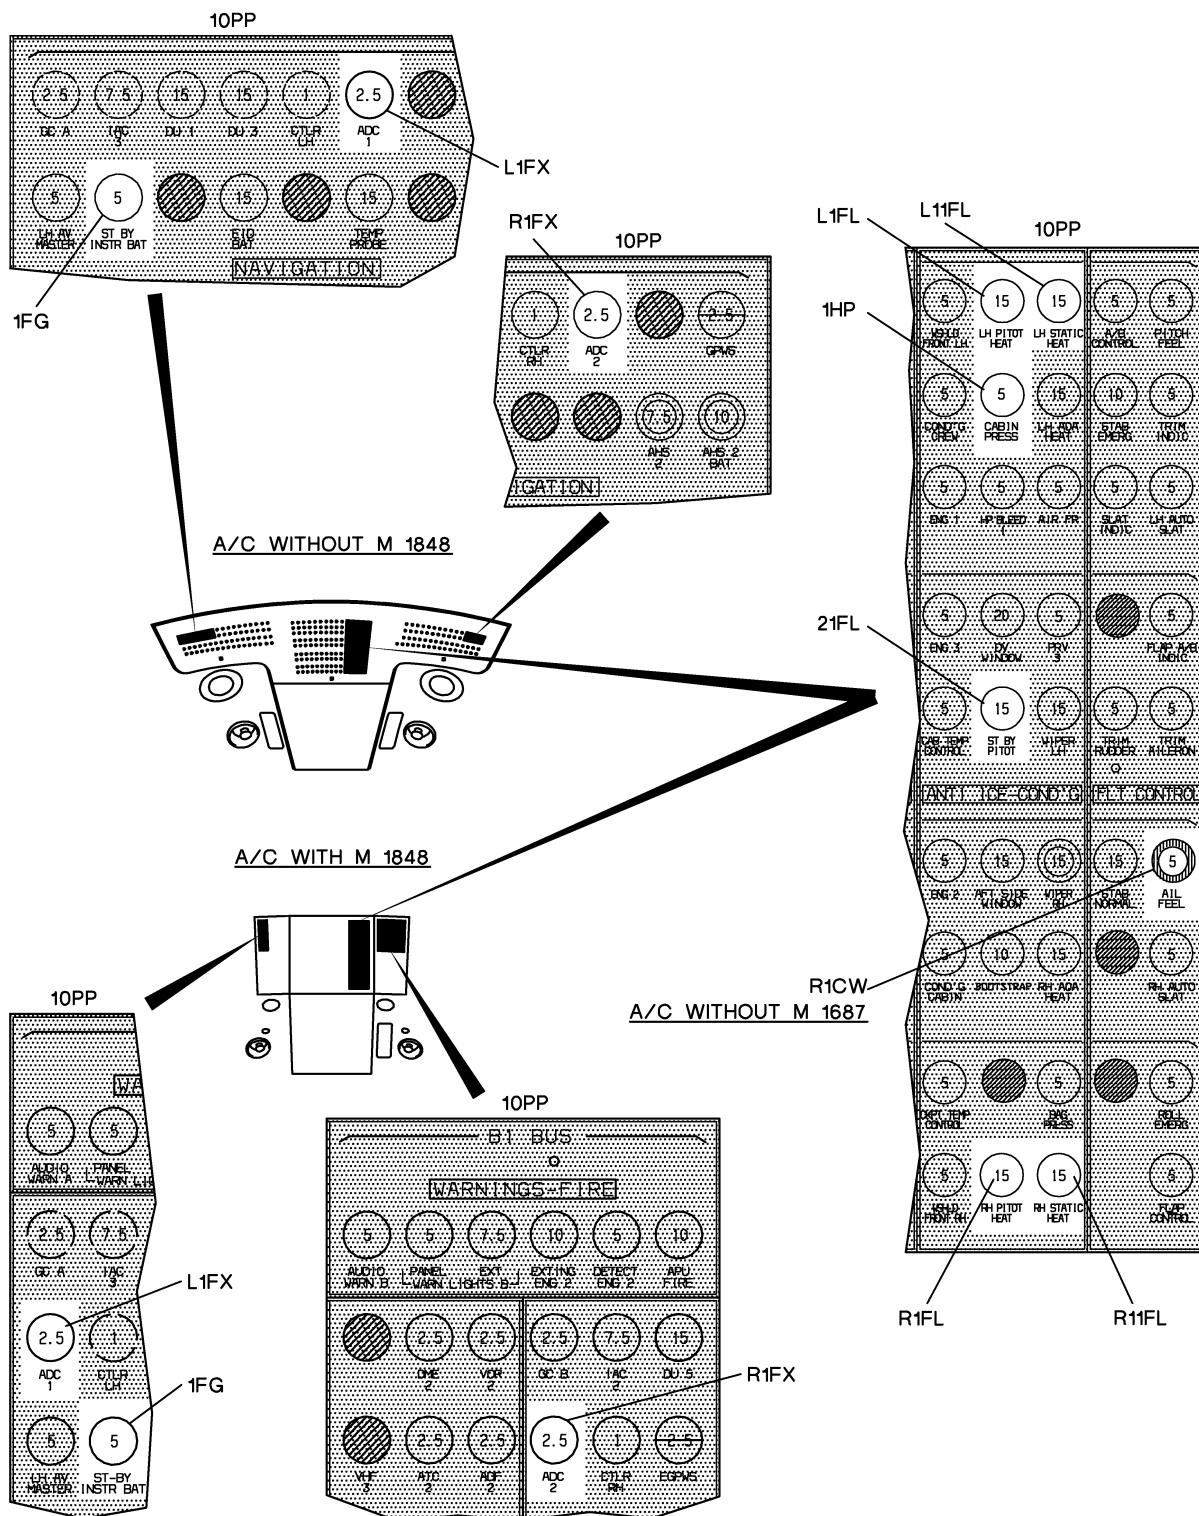

Figure 1: LOCATION OF CIRCUIT BREAKERS
- (4) Slowly return the digital air data bench to ambient atmospheric pressure.
- (5) On the circuit breaker panel (**10PP**), disengage the "ST-BY INSTR BAT" circuit breaker (**1FG**) to switch off the buzzer of the stand-by altimeter (see **fig. 1**).
- (7) Record the altitude values read on the stand-by altimeter with the buzzer off.
- (8) Calculate the difference between the values read on the stand-by altimeter with the buzzer on and the values read on the stand-by altimeter with the buzzer off.
- (9) Check that the calculated differences are within the indicated tolerances.
- (10) On the circuit breaker panel, engage the "ST-BY INSTR BAT" circuit breaker (see **fig. 1**).
Refer to **fig. 1**